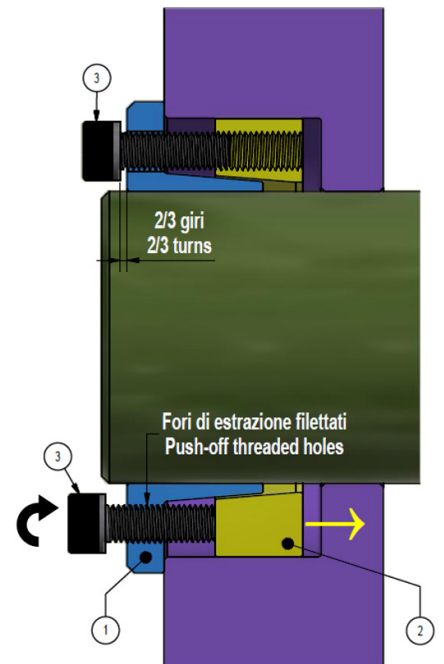

Fig. 4
2. Loosen all screws by two/three turns; then transfer some screws into all push-off threaded holes in the inner ring. **Progressively tighten these screws in a crosswise pattern, using approx. ¼ turns for several passes** until the outer ring is released (fig. 4). Start with a screw located at 90° approx. respect to slit; screws adjacent to slit shall be tightened in a row.